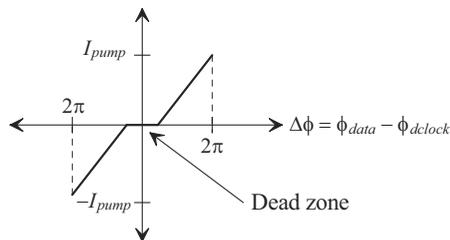

Figure 19.77 Showing the dead zone in a PFD/charge-pump.
- 19.14** Using the PFD in Fig. 19.33 and the charge pump in Fig. 19.36, demonstrate, with simulations, how the gain of PFD/charge-pump configuration can have a dead zone (the gain, K_{PD} , decreases) as seen in Fig. 19.77.